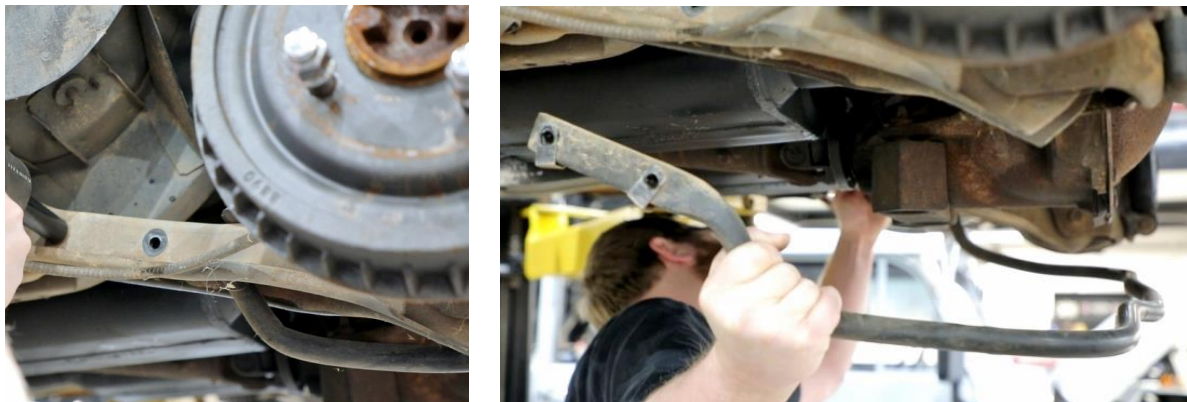

Figure 1 - Remove Stock Sway Bar
3. If your vehicle is equipped with a rear sway bar from the factory, remove it from the vehicle by removing the two sway bar bolts located in the lower trailing link on both sides of the vehicle (Figure 1).